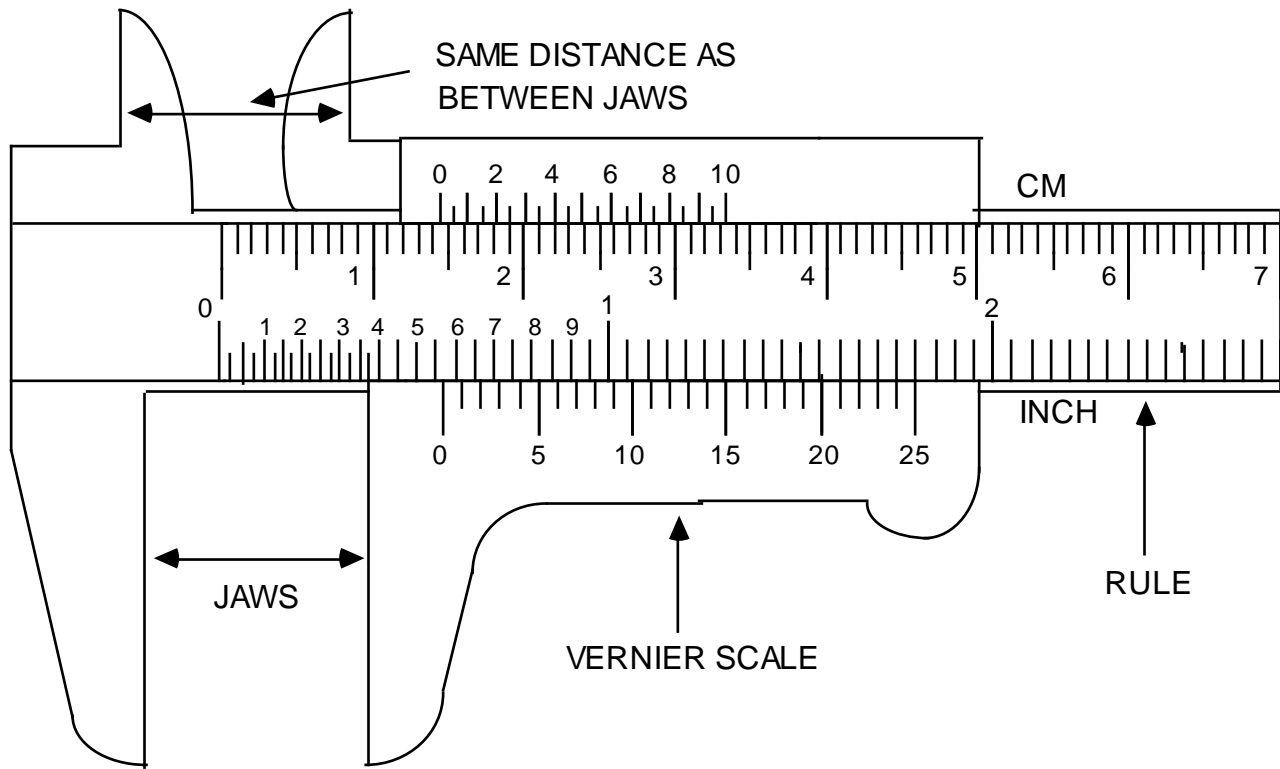

Figure 1: Vernier Caliper
Looking at the vernier caliper in Fig. 1, notice that while the units on the rule portion are similar to those on an ordinary metric ruler, the gradations on the vernier scale are slightly different. The number of vernier gradations is always one more than the number on rule for the same distance. The line on the vernier which is aligned with one on the rule tells us the fraction of the units on the rule.
- (1) Roll the thumb wheel until the jaws are completely closed (touching each other). Now check whether the caliper is reading exactly zero. If not, record the caliper reading, and subtract this number from each measurement you make with the caliper.
- (2) Use either the inside edges of the jaws, or the outside edges of the two prongs at the top of the caliper to make your measurement. Do not use the tips of the prongs. Roll the thumb wheel until these surfaces line up with the end points of the distance you are measuring.
- (3) To read the caliper:
- (a) record the numbers which correspond to the last line on the rule which falls before the index line (marked as 0) on the vernier scale. In Fig 1, this would be 1.4 cm since the index line falls after the 1.4 cm line and before the 1.5 cm line.
(b) count to the right on the vernier scale until you reach a vernier line which lines up with a line on the rule and record the number of this vernier line as your last digit. In Fig 1, it is the vernier line marked 4 (rather than the 4.5 line, say) which is aligned with one on the rule. The full vernier scale corresponds to one small division on the main scale, that is, .1 mm, so the vernier tells us to add $.4 * .1 = .04\text{cm}$, so the whole distance is 1.440 cm.
Alas, the inch scale vernier of Fig 1 is not marked correctly; the correct corresponding reading would be .567 inches, so the inch vernier should have lined up at about 17 instead of 25: $.55\text{ inches} + .017\text{inches}$).